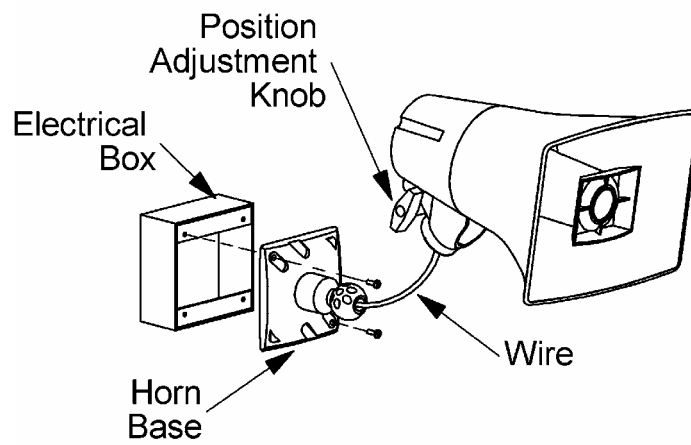

Figure 2- Mounting to an Electrical Box
- Connection to an electrical backbox is accomplished by channeling wire through the ball of the base and making appropriate connections. The base has holes punched for a double-gang square box, but by punching out additional knockout holes, the base can be mounted to a single-gang or octagon box (See Figure 2).